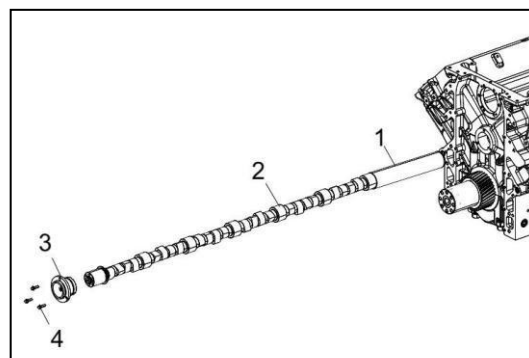

Figure 141
3. Install the camshaft (Figure 141, 2), gradually rotate it as you insert it.
Use the camshaft installment tool (Figure 141, 1) if necessary.
4. Apply a film of oil to the bearing bore. Fit the bearing (Figure 141, 3), taking care to position the lubrication groove at the top at 12 o'clock.
5. Apply a film of Loctite 242 to the fasten bolts (Figure 141, 4) and tighten to a torque of 31N·m.